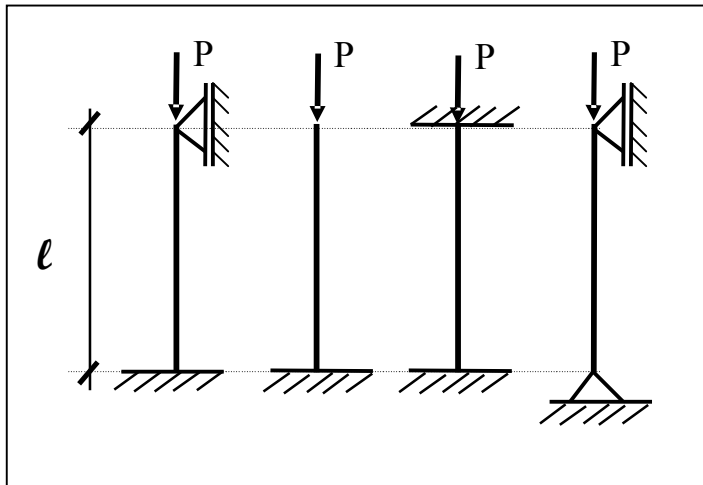

Fig. 7
08) The corresponding buckling lengths for the bars represented in Fig. 7 are: